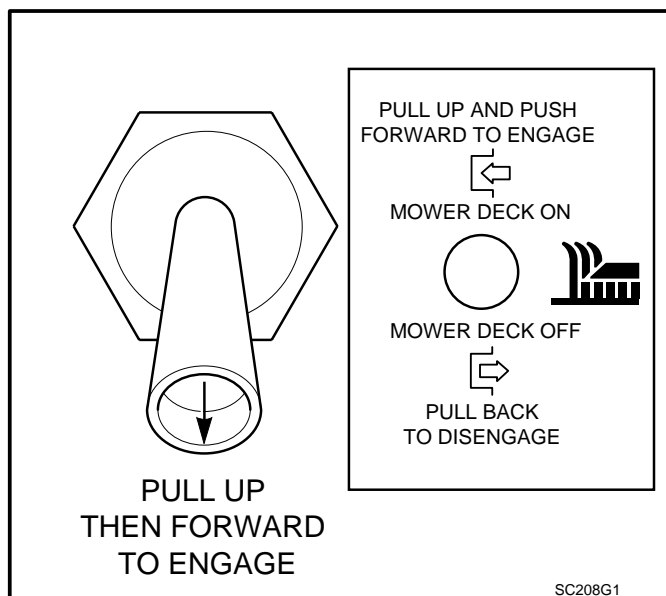

Figure 8
9. Pull the mower engagement switch out and push it forward to engage the cutter drive belts. (See Figure 8) Allow the belts to run for five minutes.